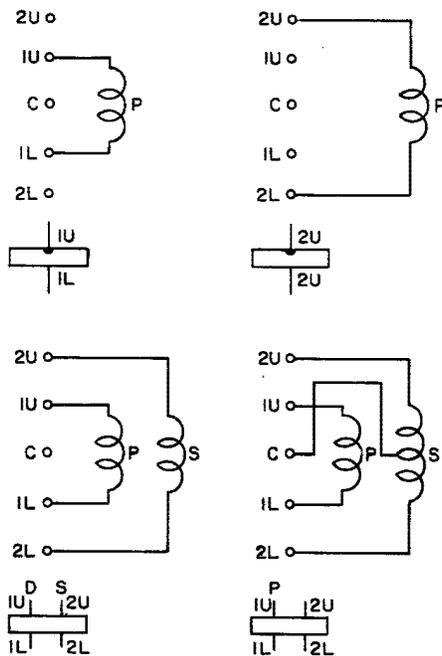

Fig. 18 - Typical Winding Arrangements for BF-, BJ-, and BL-Type Relays
2.34 Winding Terminals: Winding terminals are provided as required. As viewed from the rear the winding terminals are arranged in a vertical row to the left of the contact spring terminals as shown in Fig. 18. Referring to Fig. 18, the two upper terminals are designated 1U and 2U. The two lower terminals are designated 1L and 2L. On single-wound relays the winding may terminate on terminals 1 or 2. On double-wound relays the primary winding terminates on 1U and 1L and the second winding terminates on 2U and 2L. The center terminal designated C is used to terminate a tap on either the primary or secondary winding. Typical winding arrangements are shown in Fig. 18.